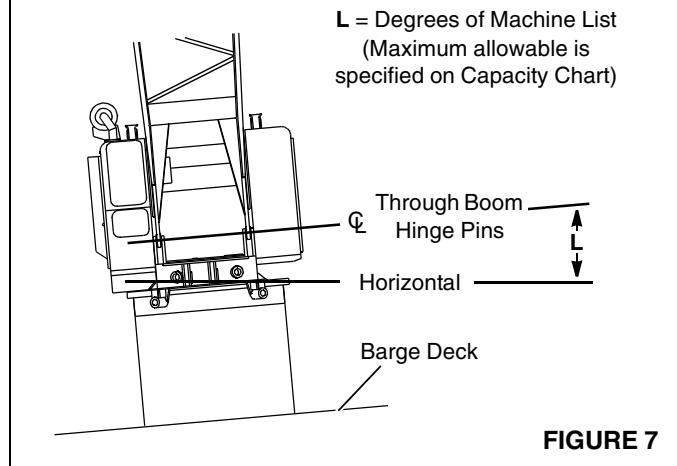

FIGURE 7
1. *Machine List*, as defined by Manitowoc, is crane's out-of-level condition — from side-to-side — as measured by angle between horizontal and a line drawn through centerline of crane's boom hinge pins (Figure 7). This out-of-level condition creates side load and effects crane's lifting capacity.